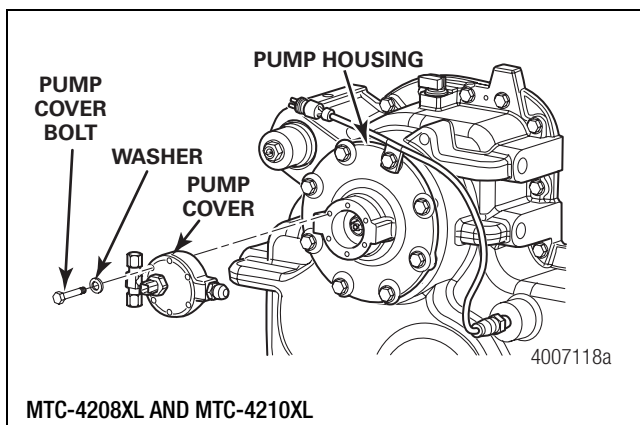

Figure 6.43
10. Align the reversing tab (roll pin) on the pump cover with the corresponding recess on the pump. The pump cover must be at this orientation to prevent damage to components. Figure 6.43.
11. Install the pump cover washers and bolts. Figure 6.43.